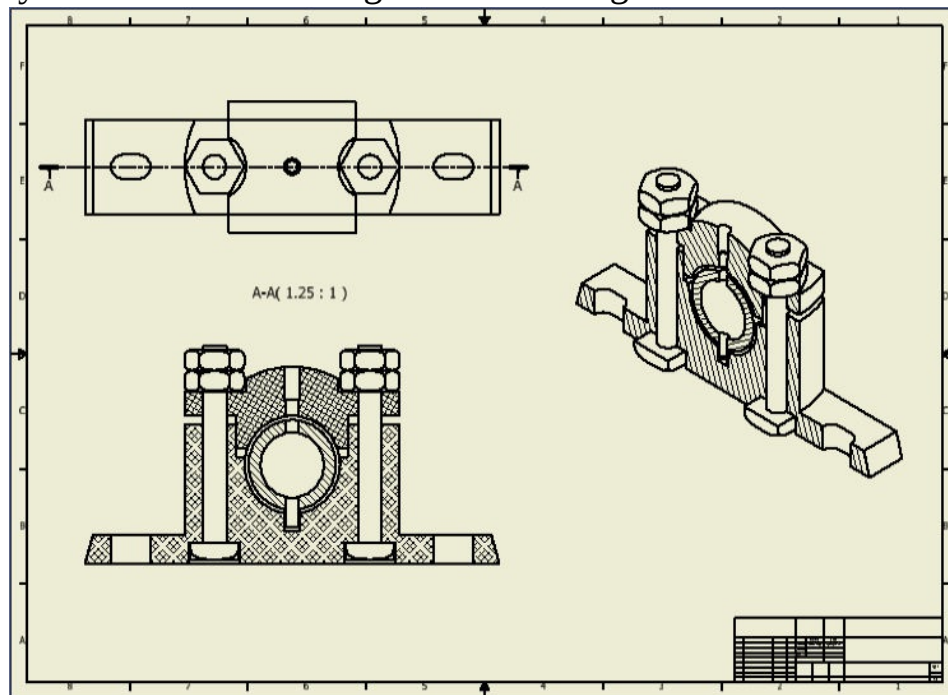

Figure 11-53 Drawing sheet after generating all three views
3. Right-click and then choose **Create** from the Marking menu; the isometric view of the section view is generated. The drawing sheet with all drawing views is shown in Figure 11-53.